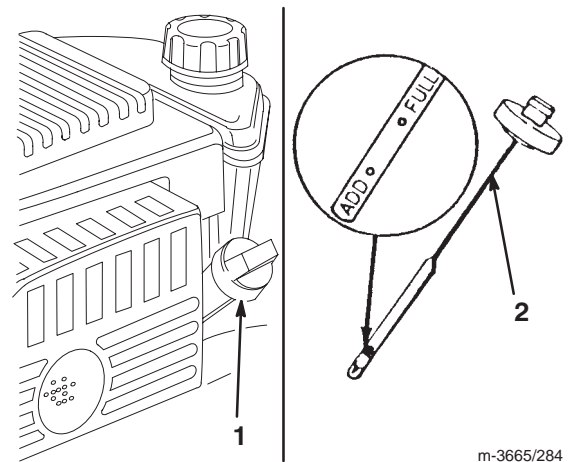

Figure 4
Before each use, make sure that the oil level is between the *Add* and the *Full* marks on the dipstick (Fig. 4).
- Clean around the dipstick (Fig. 4).
- Read the oil level on the dipstick (Fig. 4).